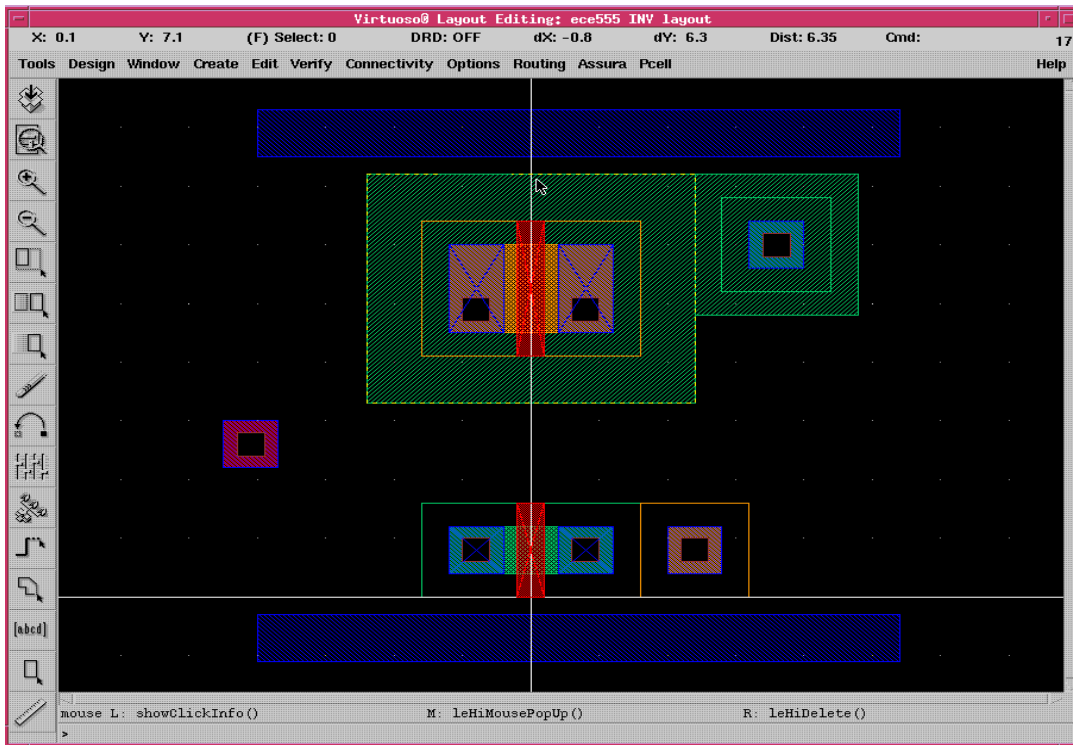

Fig. 8. Adding power rails
- Draw the power rails as in Fig. 8.